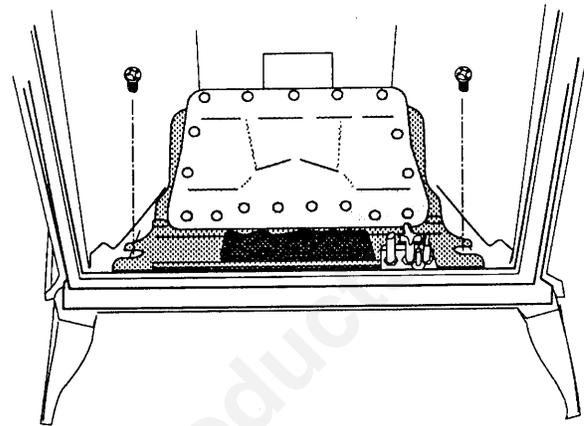

Figure 41. Remove the burner retainer screws.
Step 2. Remove the two Burner retainer screws. Lifting the back of the Burner, slide it to the rear and lift it out of the firebox to access the air shutter on the end of the J-tube. Fig. 41.